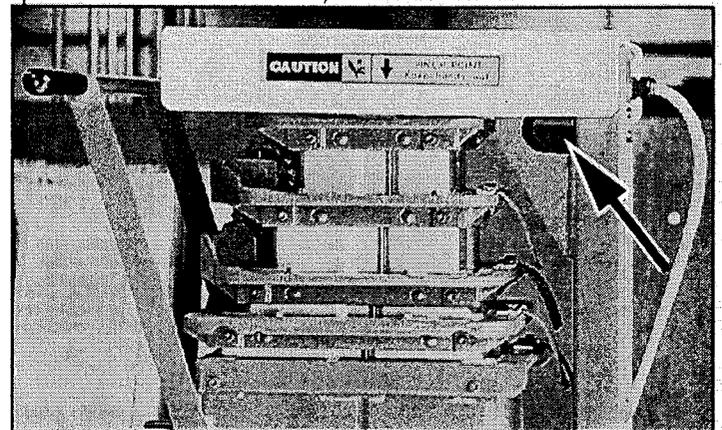

Figure 2-2: Upper Tie Down/Lift Point
6. Attach a lifting strap to the upper tie down/lift point (Figure 2-2) and a suitable lifting device. With the lifting device raise the machine to its vertical position.